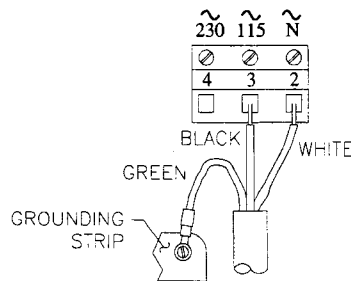

FIGURE 2-8 *Connecting 115 Volt Single Phase to Analyzers with "B" Prefix Serial Numbers*
- *The grounding strip at bottom of case (5 open holes -- Figures 2-8, 2-10, or 2-12) for analyzers with "B" prefix serial numbers.*